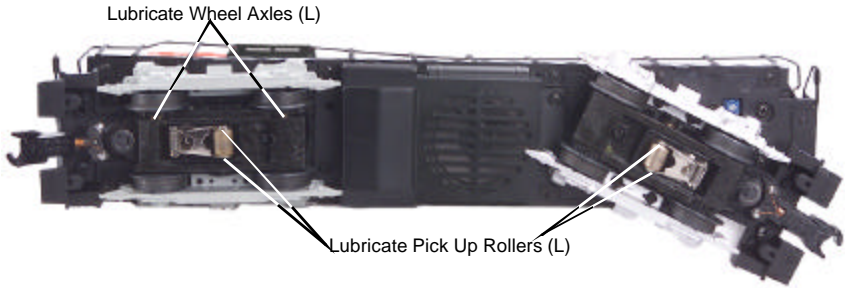
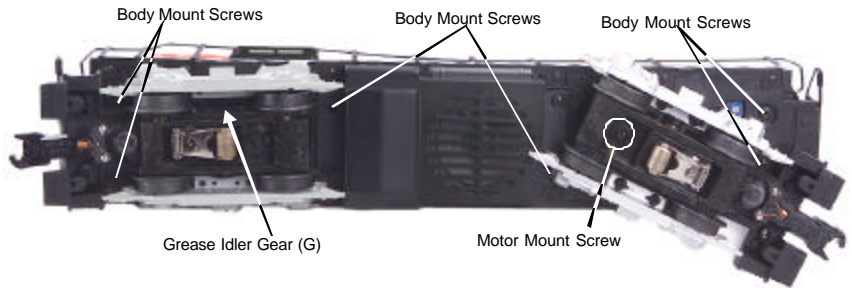

Figure 2. Lubrication Points on the Engine
Figure 3. Body Mount Screws and Greasing Points.
Although the engine was lubricated at the factory, it is important that you lubricate the chassis before operation. Lightly grease the outside idler and drive gears (marked “G” in Fig. 3 on pg. 10) to prevent them from squeaking. Use light household oil and follow the lubrication points marked “L” in Fig. 2 on pg. 10. Do not over-oil. Use only a drop or two on each pivot point.
You should regularly lubricate all outside idler gears and pickup rollers to prevent them from squeaking. Use light household oil and follow the lubrication points marked “L” in Fig. 2. Do not over oil. Use only a drop or two on each pivot point.
1. Remove the Phillips screws from the chassis, as seen in Figure 3, then lift the body away from the chassis. Use caution when removing the body to make sure the handrails clear the cab housing so that the paint is not damaged.
2. Remove the truck blocks from the chassis by unscrewing the black Phillips motor mount screw (labeled motor mount screw in Figure 3) on the bottom of each truck block.